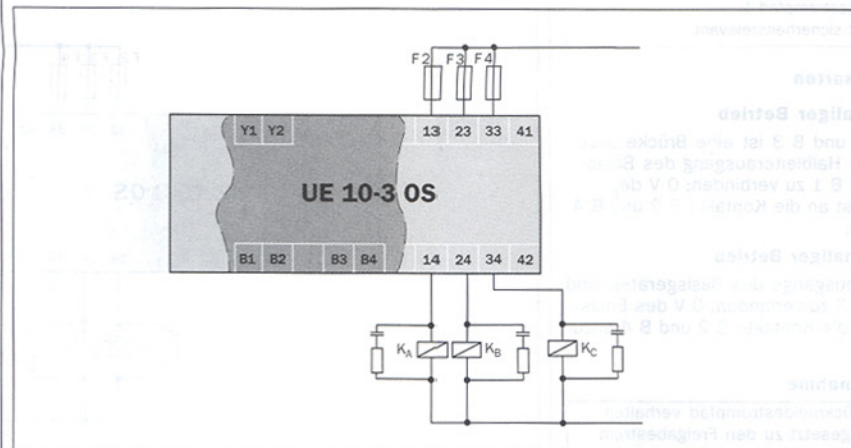

Fig. 2: Basic wiring UE 10-3 OS
- To prevent welding of the contacts of the installed relays, an overcurrent protection device with a maximum of 6 A short-circuit protection (Operating Class gG) shall be incorporated in the output circuits (see fig. 2, fuse F 2 / F 3 / F 4).